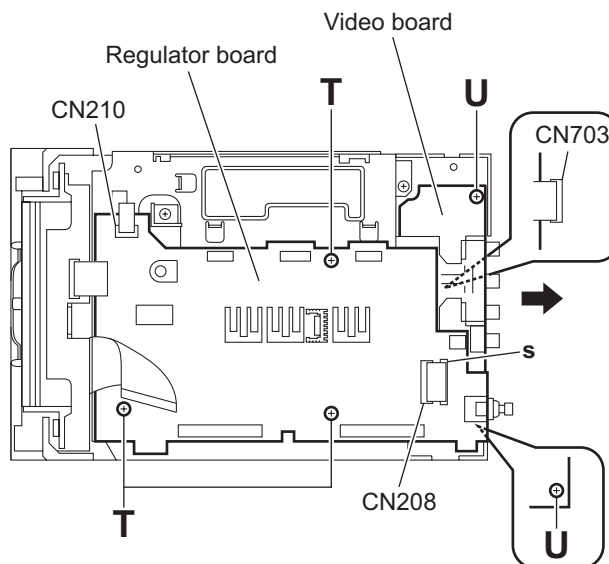

Fig.24
3.1.10 Removing the regulator board (See Fig.24)
(2) Remove the three screws **T** and take out the regulator board.
3.1.11 Removing the video board (See Fig.24)